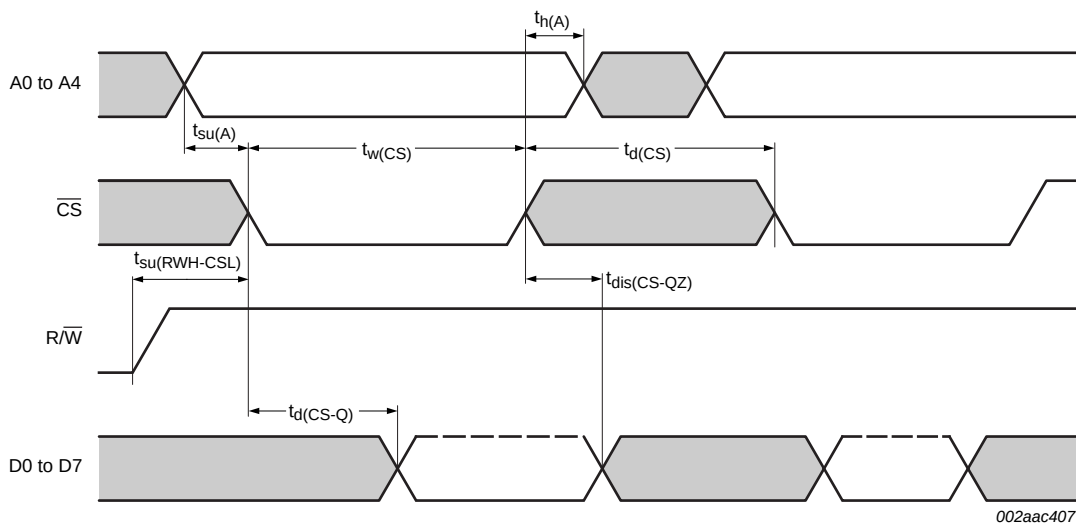

Fig 14. General read timing in 68 mode
(2) $\overline{\text{CS}}$ timing during a read cycle. See Figure 14.